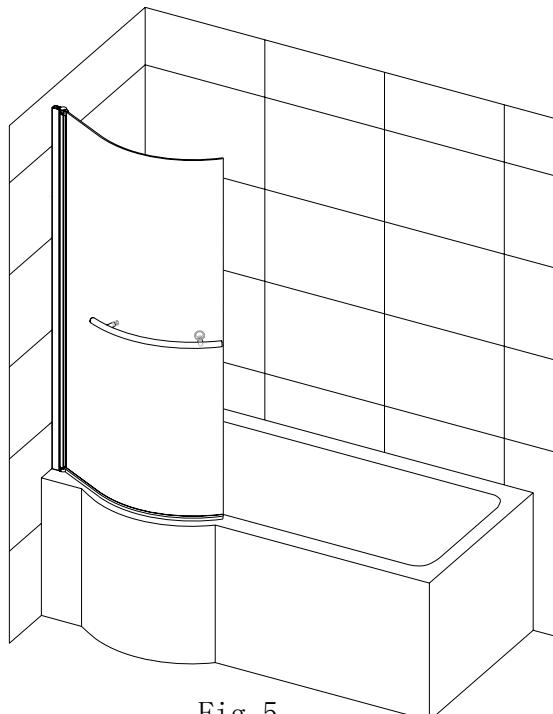

Fig. 5
5) Install the anti-water strip of bottom and towel bar on the glass door. As Fig.5